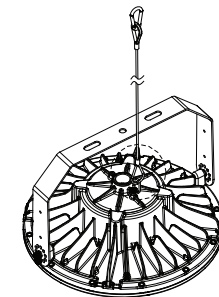

Figure 13
- 2.Put the screw through the safety rope (figure11、 12) , and fix it in the mounting hole of the lamp radiator (figure13、 14) .Ensure that the screws are firmly fixed.